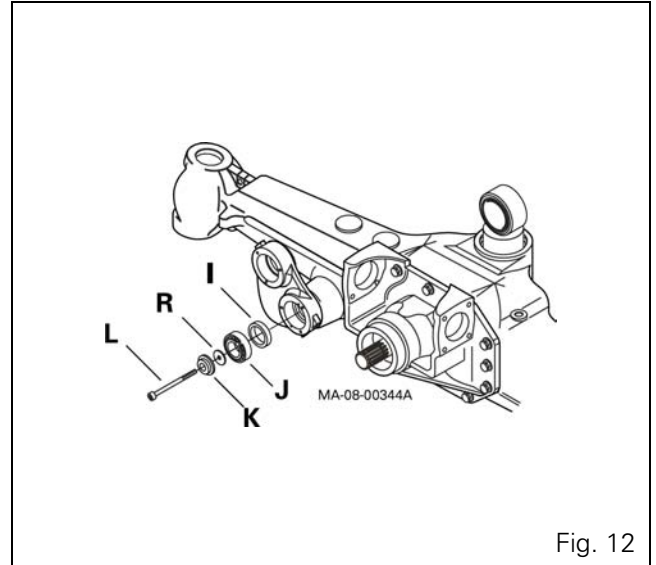

Fig. 12
- 12.** Fit one seal I onto each pin fitted in the lower arm housing using special tool ref. CA715352 (see § C) and a mallet (Fig. 12).
Fit a spacer R (on the drive pinion side) of the correct dimensions (thickness: R=1mm) and install the thrust washer K fitted with the attachment screw L (Fig. 12).